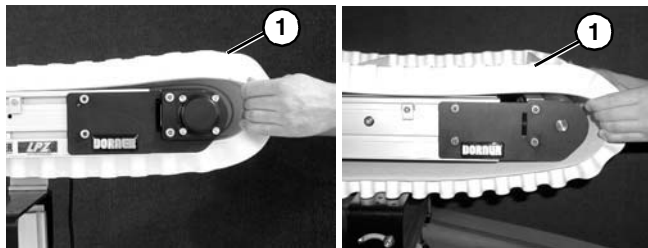

Figure 27
8. Remove belt (Figure 27, item 1) from conveyor.